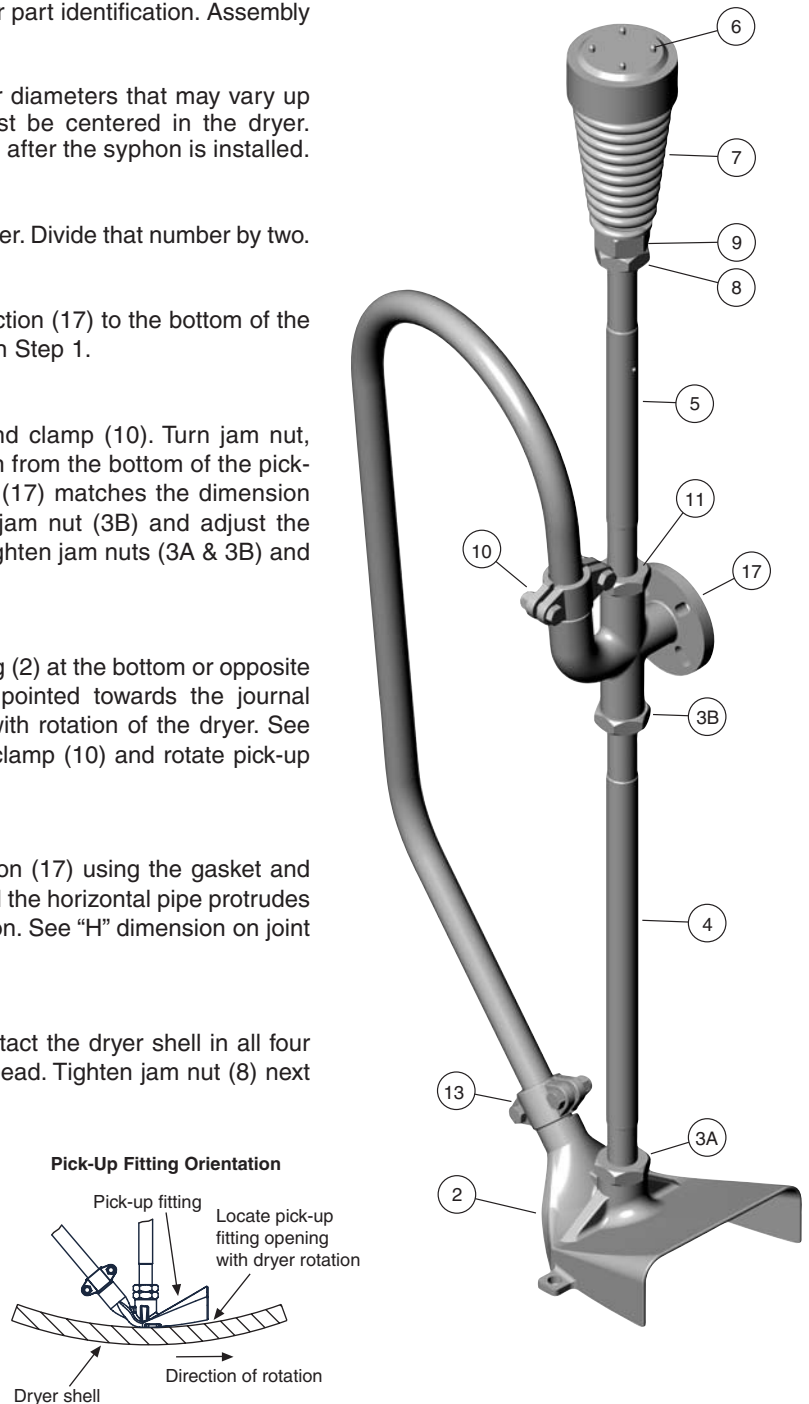

Figure 1.
Position the syphon inside the dryer with the pick-up fitting (2) at the bottom or opposite the manhole and the flanged elbow connection (17) pointed towards the journal condensate outlet. The pick-up fitting must be pointed with rotation of the dryer. See Figure 1. To change pick-up fitting (2) direction, loosen clamp (10) and rotate pick-up fitting 180° and tighten clamp.